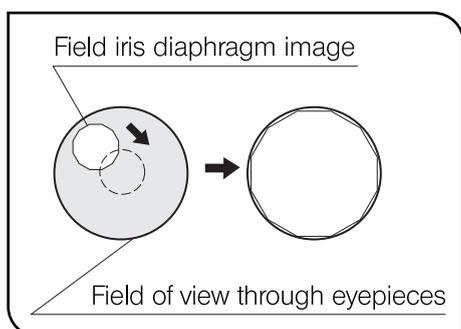

Fig. 16
4. To check centration, open the field iris diaphragm until its image touches the perimeter of the field of view. If the image is not precisely inscribed in the field of view, center again. (Fig. 16)